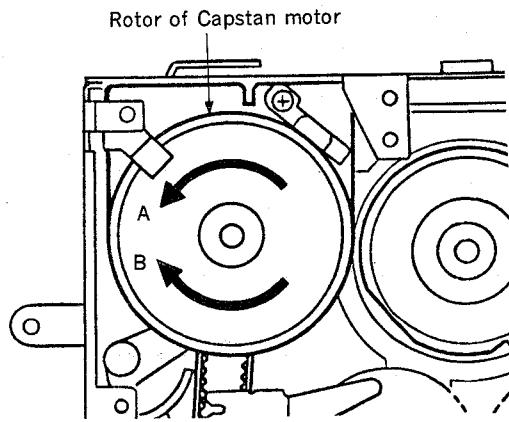

Fig. 2
10. Turn the rotor of the capstan motor in the direction of arrow A or B by hand and wind up the tape into the cassette. (Fig. 2)